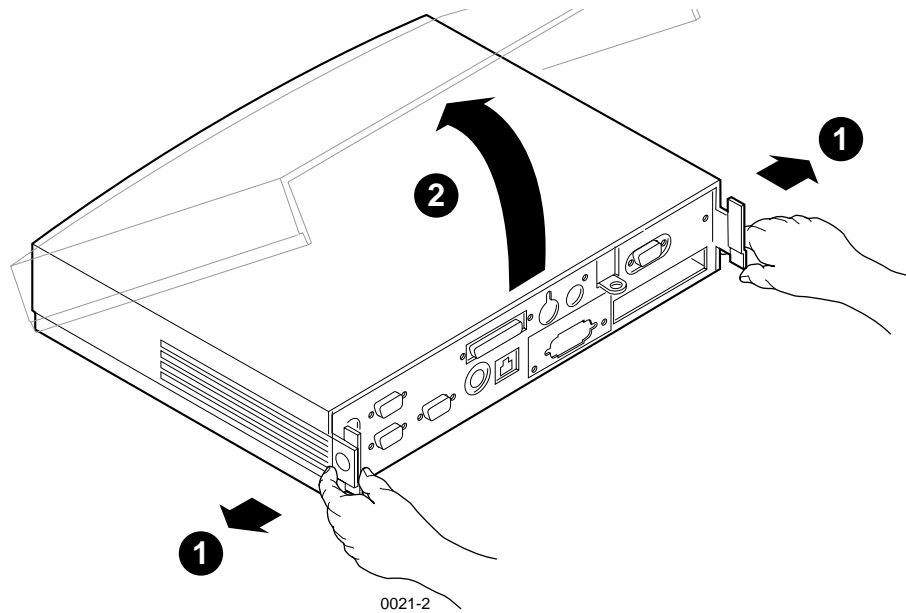
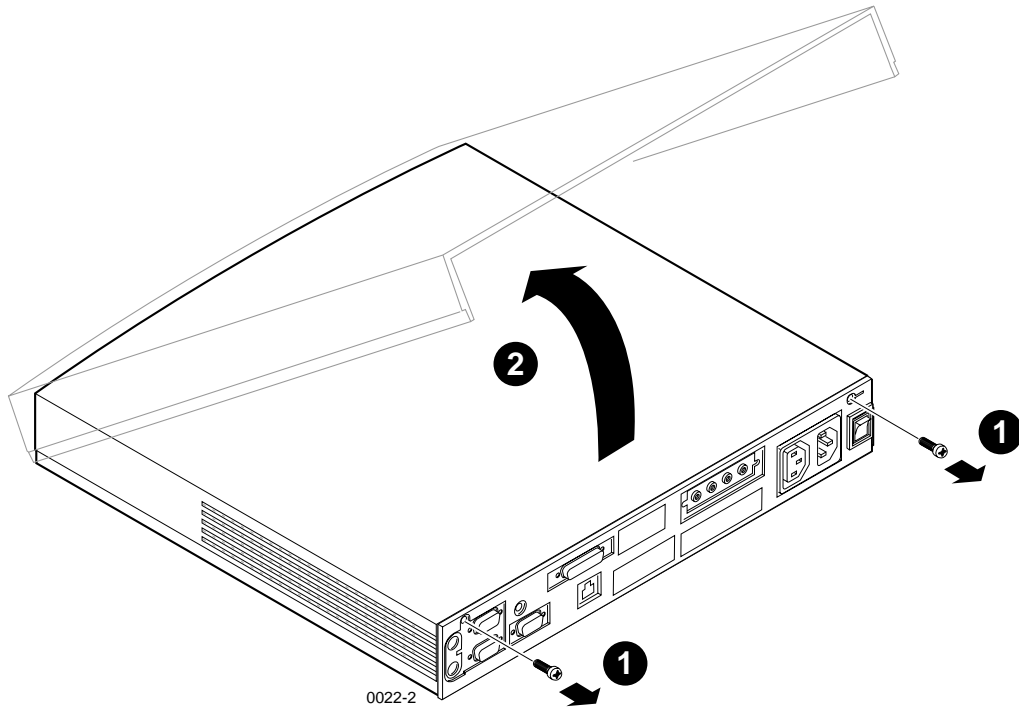

Figure 2. Removing the NC200 Logic Module Cover
Figure 3. Removing the NC400 Logic Module Cover
5. Remove the logic module cover. **NC200:** As shown in Figure 2. **NC400:** As shown in Figure 3.